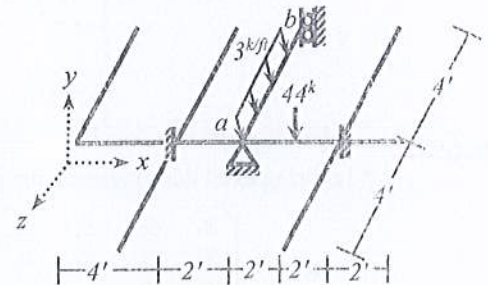

Fig. 4
- Use stiffness method to calculate rotations (θ_x , θ_z) of joint a and displacement of joint b of the grid system loaded as shown in Fig. 4